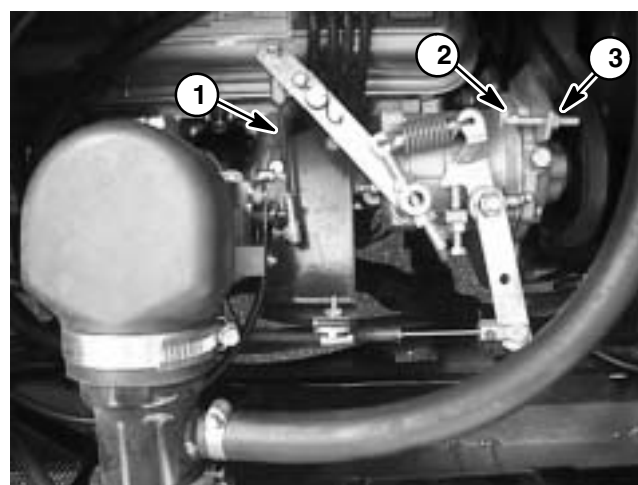

Figure 4
1. Park machine on a level surface, stop engine, engage parking brake, and remove key from the ignition switch. Tip passenger seat to gain access to engine speed control (Fig. 4).
2. With engine stopped, move throttle control to **FAST** position. Check distance between carburetor throttle shaft lever and stop on carburetor base to make sure there is a 1/32" to 1/16" (.8 mm to 1.6 mm) gap. If this gap is incorrect, adjust throttle control rod (Fig. 4) by turning ball joint ends until gap is correct. When gap is correct, proceed with following steps.
6. Move throttle control to **FAST** position. Using a tachometer, check that engine is operating at **3175 ± 25 RPM**. If high idle engine speed is incorrect, loosen jam nut on high idle stop screw (Fig. 4) and adjust stop screw until engine is running at **3175 ± 25 RPM**. Tighten jam nut and recheck high idle speed.